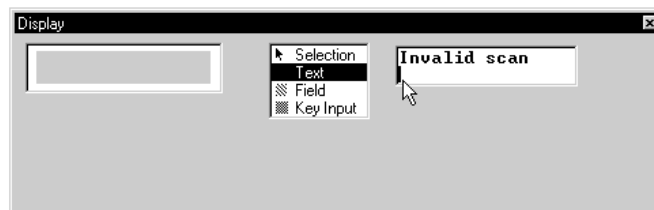

Figure 4-26 Display Window - First Line of Text Entered
28. Type **Invalid scan** on the top line (Figure 4-26). DO NOT PRESS <ENTER> YET. Use your mouse to click at the beginning of the second line (Figure 4-26) or use the arrow keys on your computer's keyboard to move the cursor to the beginning of the second line. The <Enter> key will not act as a line return in the **Display** window; it is only used to accept the text entry.